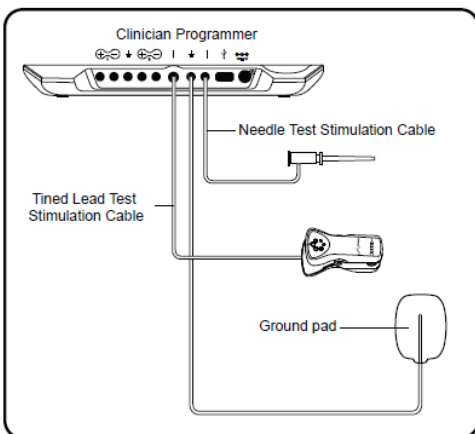

Figure 4. Clinician Programmer cable connections for the lead implant procedure.
Insert the black plug into the CP ground (⚡) next to Needle Test Stimulation Cable (**Figure 4**).
7. Insert the black plug of the needle test stimulation cable into the CP outside the sterile field (**Figure 4**). Keep the clip end of the cable in the sterile field.
9. Insert the grey plug of the tined lead test stimulation cable into the CP outside the sterile field (**Figure 4**). Keep the clip end of the cable in the sterile field.